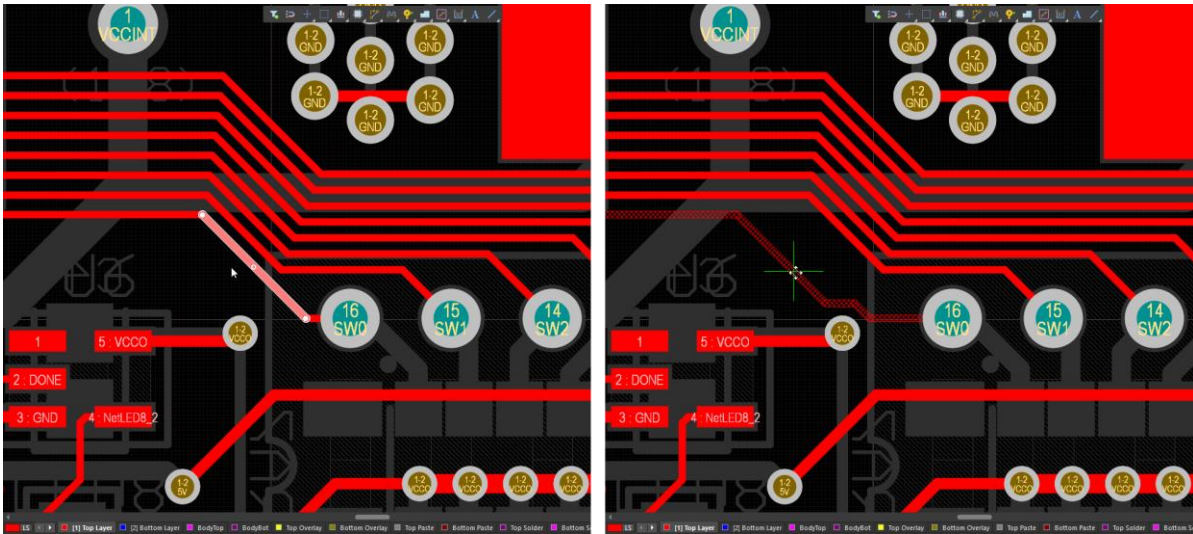

Figure 8. Click to select a segment, then click and hold to slide that segment
- a) Click once to select a diagonal segment of SW0, as shown in Figure 8.
- b) Position the cursor so it is over the selected track segment, it will change to a double headed arrow , as shown in Figure 8.